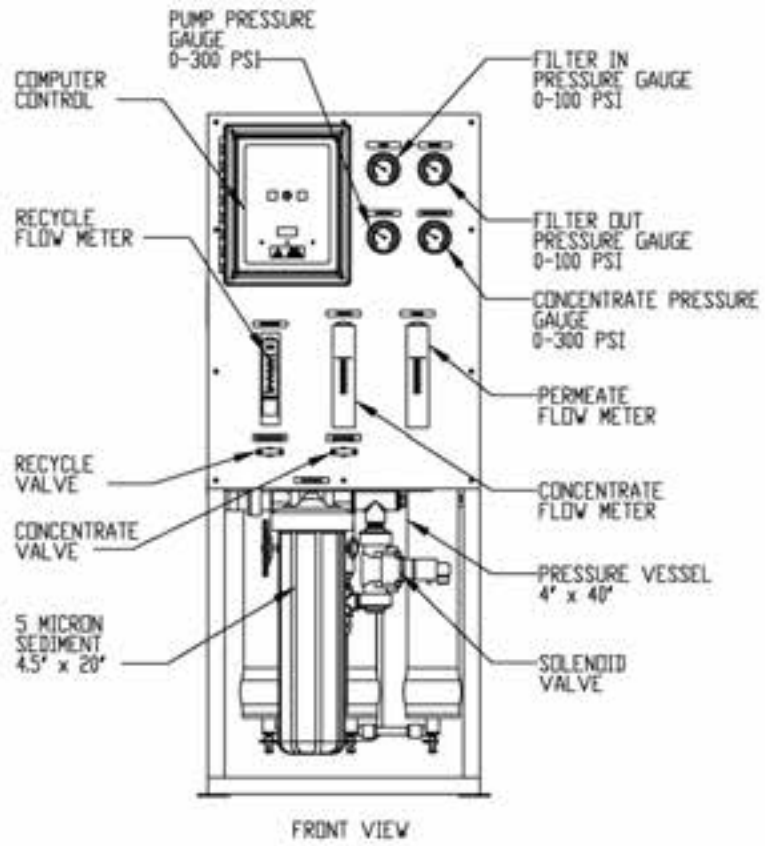

FIGURE 1B
2. Fully open the concentrate valve (Counter Clockwise). (Figure 1B, Page. 16)
3. Fully close the recycle valve (Clockwise) (If Applicable). (Figure 1B, Page. 16)
6. Turn the feed water on and let the system purge until no visible bubbles appear from concentrate flow meter. (Figure 1B, Page. 16)
3. Fully close the recycle valve (Clockwise)(If Applicable). (Figure 1B, Page. 16)
5. Turn the RO system on and adjust the concentrate (waste) valve, recycle valve (If Applicable), and the throttle valve to the designed flow and pressure. (Figure 1B, Page. 16)